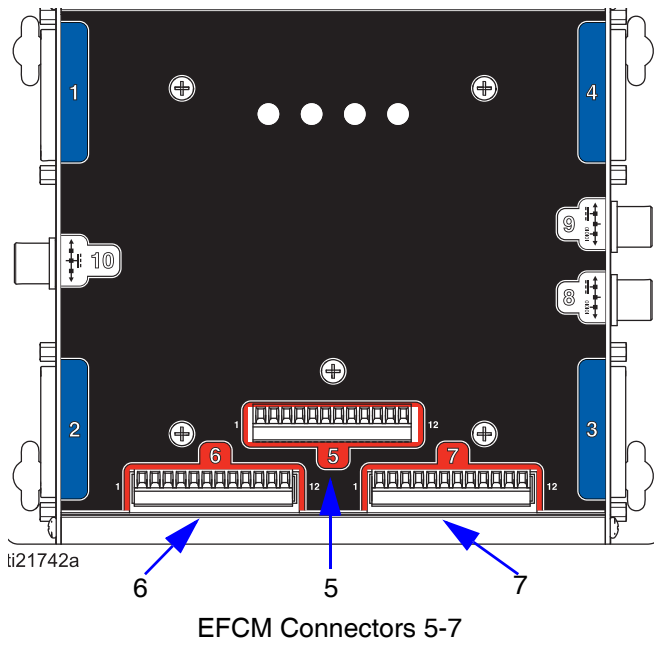

FIG. 3. Enhanced Fluid Control Module
4. Connect the other end of the cable (5 in. [127 mm]) to the appropriate terminal blocks of the EFCM in the PD2K Dual Panel Control Enclosure. See FIG. 3 and Table 2.